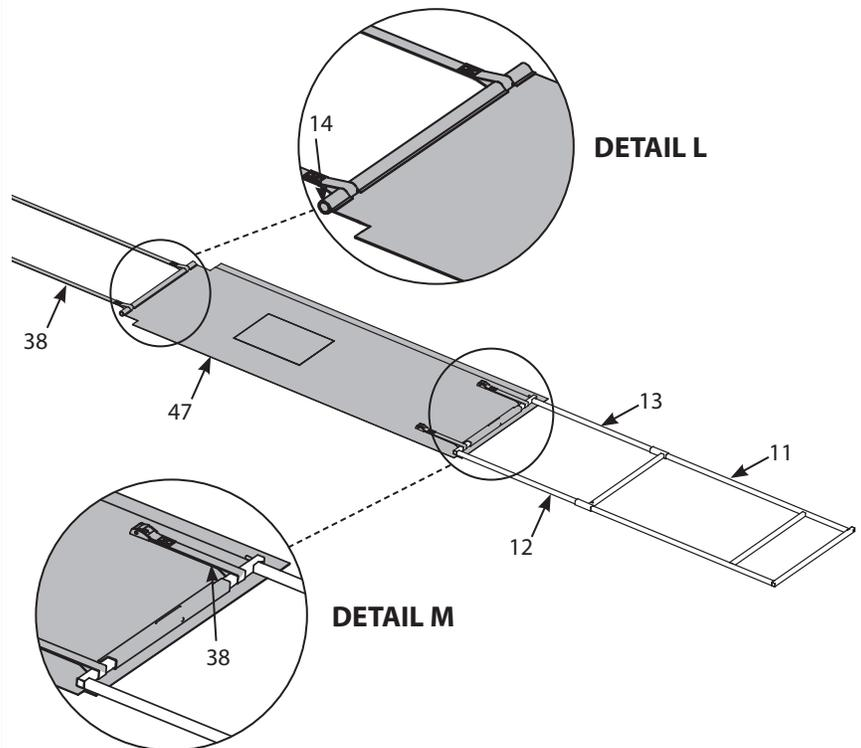

FIGURE 16
16. Locate the following parts: door frame top (11), two bottom door frame parts (12, 13), pole (14), two complete cam straps (38) (both cam strap end and long loop end), and door panel (47).
Slide a cam strap end onto each part (12, 13) as shown. **SEE FIGURE 16.** Then slide (12, 13) into the sleeve in door panel (47) so that snap buttons secure the parts together inside of the sleeve as shown. **SEE FIGURE 16 and DETAIL M.**
Slide door frame top (11) onto assembled door frame bottom so that snap pins secure the parts together. **SEE FIGURE 16.**
Slide pole (14) into top sleeve of door panel being sure to also slide on the two long loop ends of cam straps (38) as shown. **SEE FIGURE 16 and DETAIL L.**